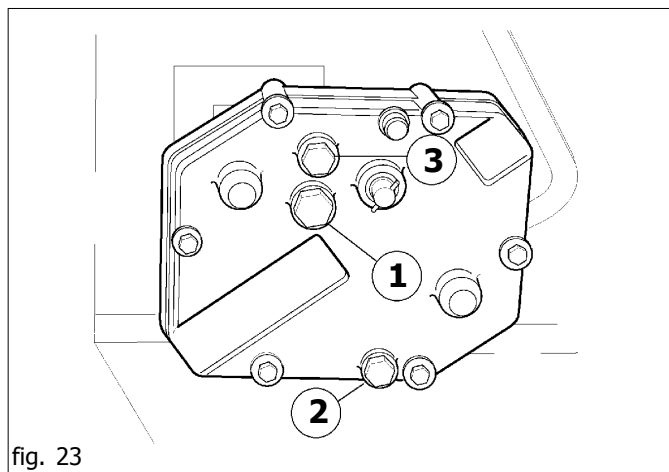

fig. 23
- Check the oil level in the gearbox and top up to level (Fig. 23, «1») whenever necessary using the same type of oil (ACER 22) whenever possible.
- oil drainage plug, 2 Fig. 23;
- oil filling plug, 3 Fig. 23.